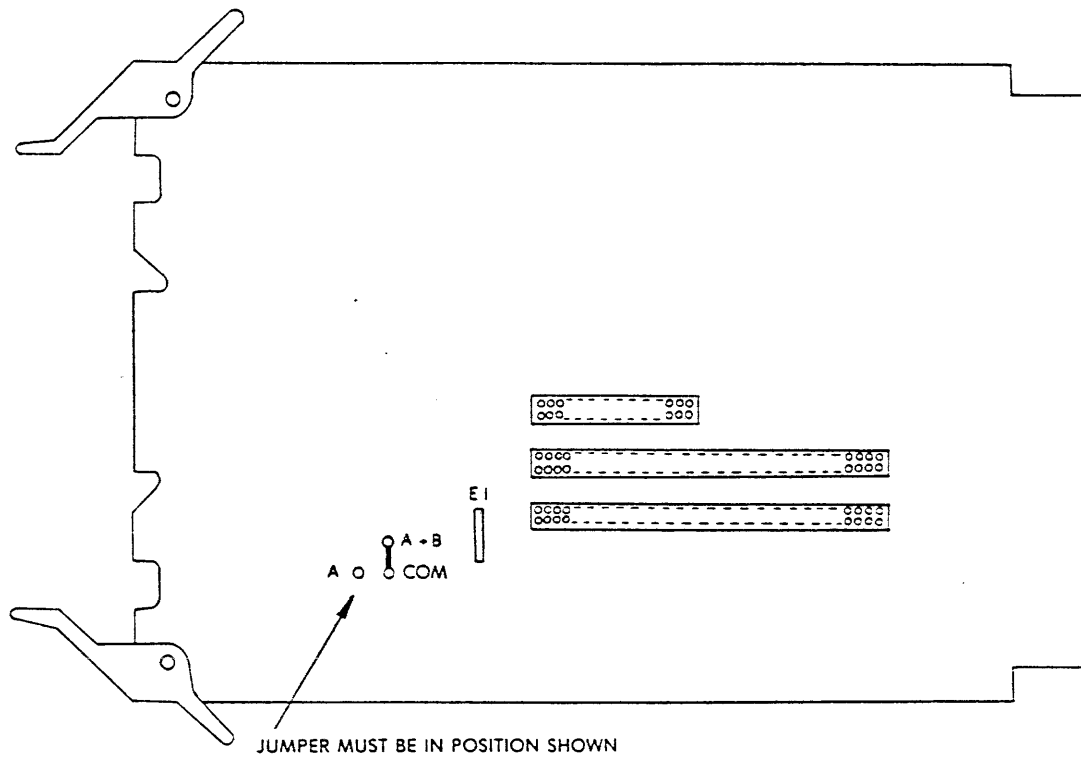

Figure 3-9. MFAX, WFAX, or AAFAX Card Jumpered for B-Cable Continuous
- B-cable continuous** The jumper plug on the MFAFAX card (slot A08) must be in the 'A+B' position. Dual channel drives have a second card in slot B08 which must be similarly jumpered (see Figure 3-9).